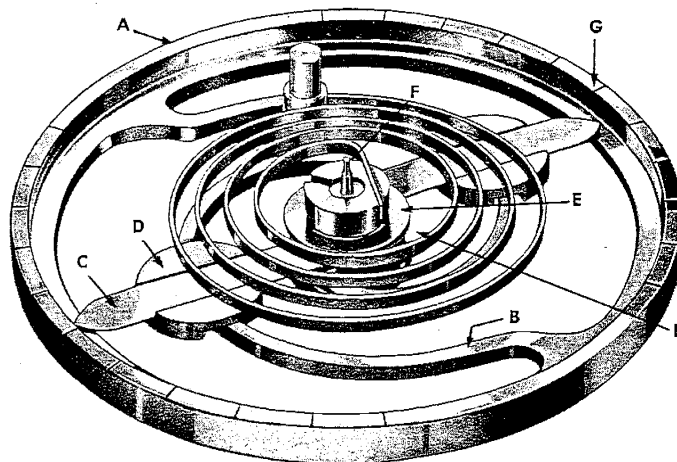

FIGURE 1—PERSPECTIVE OF BALANCE ASSEMBLY
18. To regulate, hold balance arm (B in Fig. 1), and with tweezers move regulating lever clockwise or counterclockwise as needed.